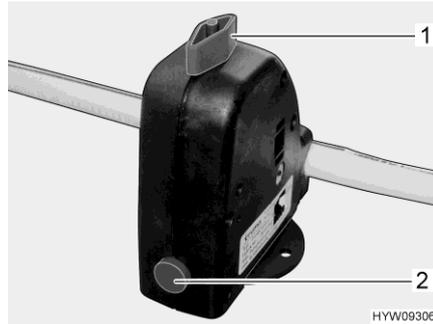

Fig. 117 Safety/drainage valve (boiler)
The boiler is equipped with a safety/drainage valve (Fig. 117). The safety/drainage valve prevents water in the boiler from freezing, when there is frost and the heater is not switched on.
- Close the safety/drainage valve. Turn the knob (Fig. 117,1) perpendicular to the safety/drainage valve and push the push button (Fig. 117,2) in.
- Open the safety/drainage valve. To do this turn the knob (Fig. 117,1) parallel to the safety/drainage valve. The push button (Fig. 117,2) jumps out. The boiler is drained to the outside by the safety/drainage valve.